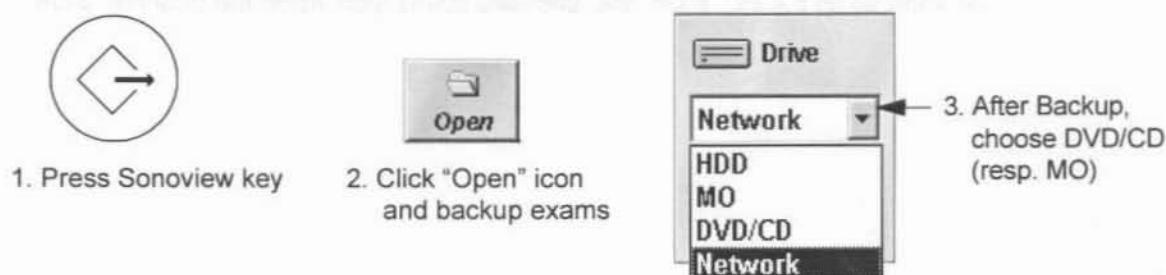

Figure 7-20 To backup exams to DVD/CD+(R)W resp. MO-Disk
- 2.) Enter "Sonoview" by pressing the **SONOVIEW** key on the control panel; see Figure 7-20.